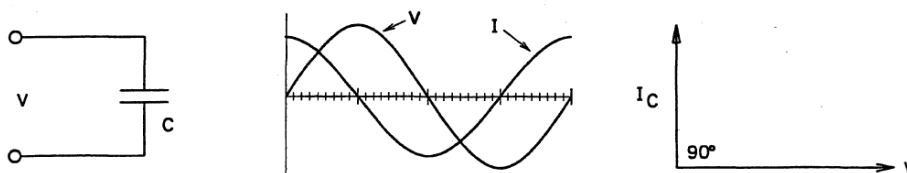

Figure 5 - Phase relationships in a pure capacitor
26. In a purely capacitive circuit on a.c., the current is limited by the capacitive reactance (X_c) of the capacitor, and all of the energy going into the circuit is stored in an electrostatic field and returned to the mains during each quarter cycle, so the total energy consumption is zero. Although the total energy consumption is zero, current still flows in the circuit – (it can be measured with a normal ammeter), but it is 90° out of phase with the voltage. The current in a capacitor LEADS the voltage by 90° as shown in Figure 5.